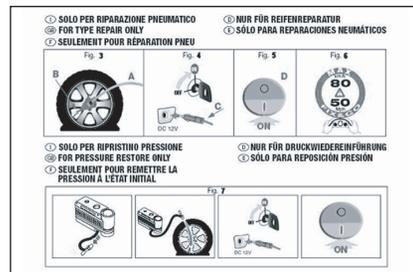

fig. 12
- instruction brochure (see **fig. 12**), to be used for prompt and proper use of the quick repair kit and to be then handed to the personnel charged with handling the treated tyre